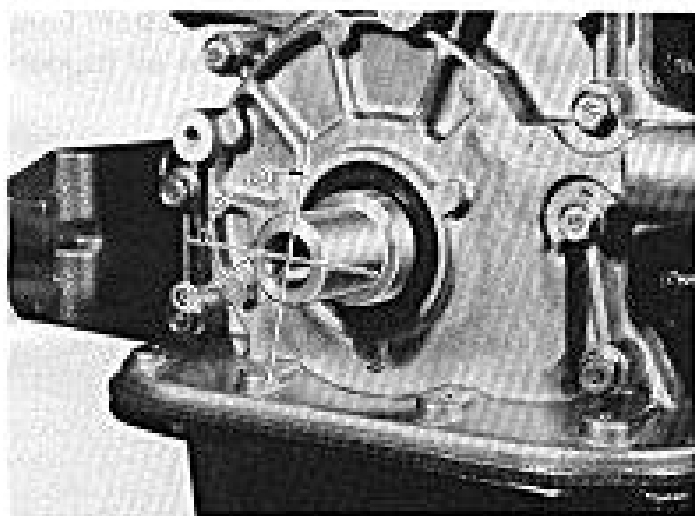

Fig. 3-129
Turn the crankshaft to bring its keyway ② to the position indicated in Fig. 3-129, that is, making the keyway face sidewise, and then install the rocker-arm shaft. This crankshaft positioning is necessary because, if its keyway is in any other angular position, some valves will touch piston crowns, possibly resulting in damaged valves or piston crowns. Keep crankshaft in that angular position until the job of adjusting the timing belt tension is completed.